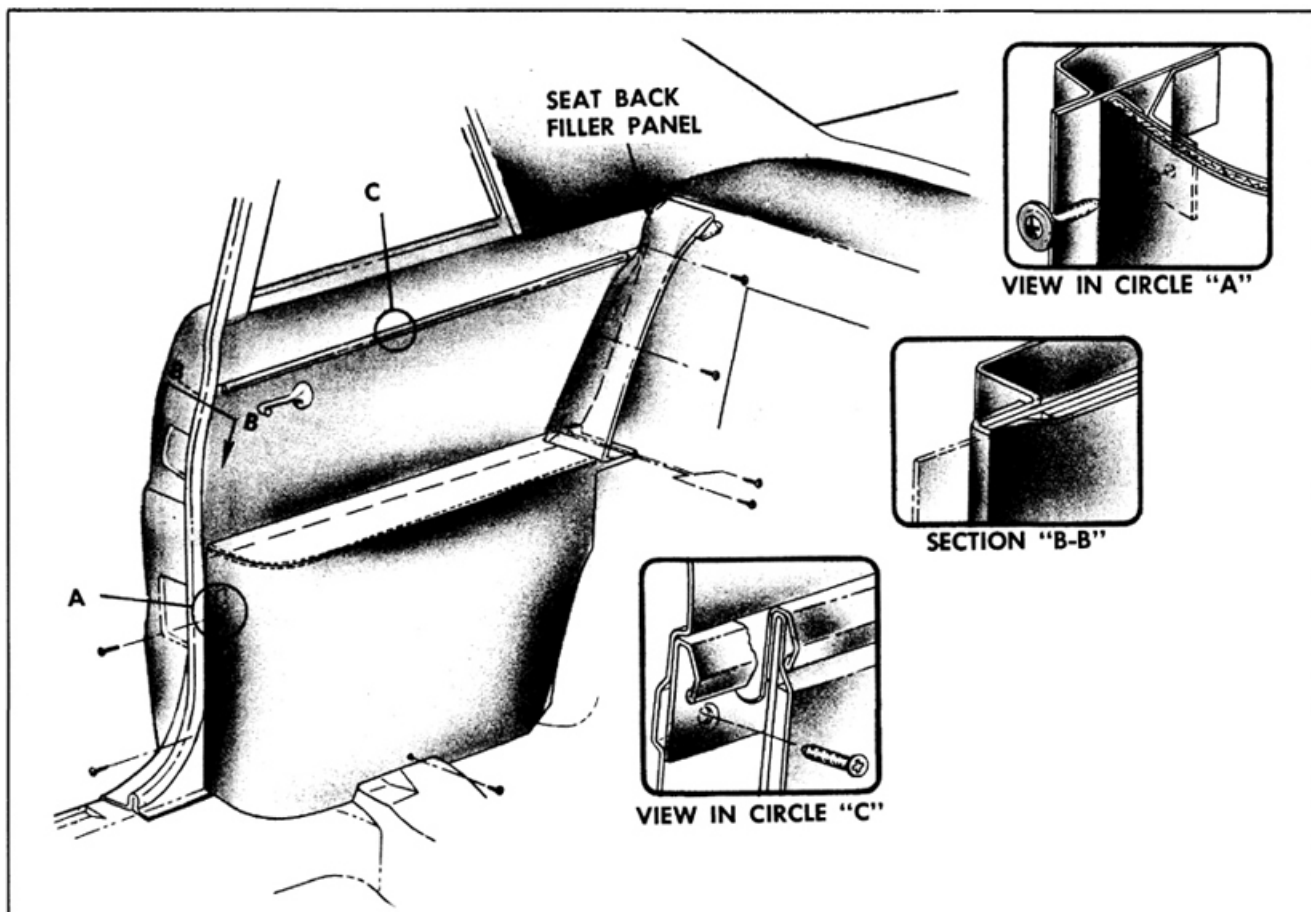

Fig. 16-359 Quarter Trim (3127 Style)
1. Remove rear seat cushion and seat back assemblies. Remove seat back filler panel to quarter inner panel attaching screws and remove filler panel. (Fig. 16-359)
3. Beginning at rear, carefully pull upper edge of trim assembly downward to disengage it from upper finishing molding. (View "C", Fig. 16-359)
5. To install, reverse removal procedure. Prior to installation of pinchweld finishing strip, cement forward overlapping edge of trim assembly to pinchweld flange outboard surface. (Fig. 16-359)